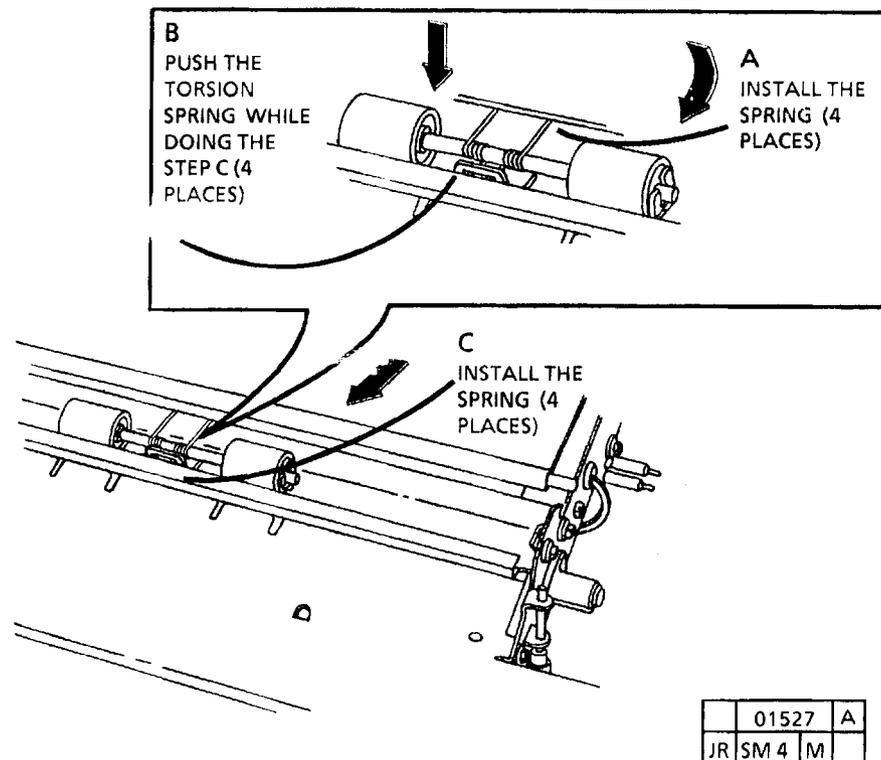

Figure 2. Reinstall the Lower Media Feed Rolls
- (FIGURE 2): REINSTALL THE IDLER ROLLS.